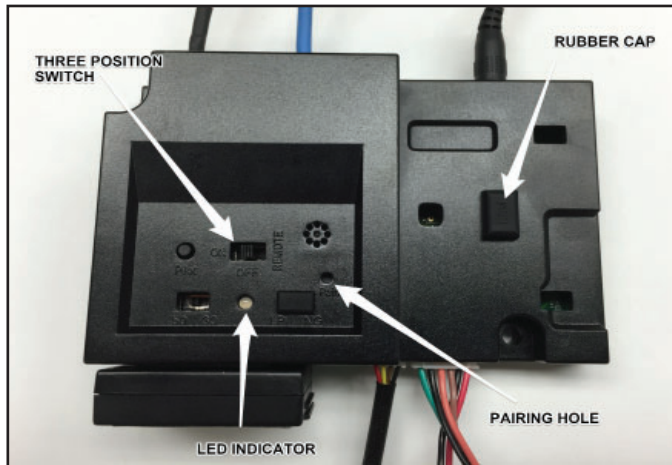

Figure 7. IFT-ECM
1. Locate the IntelliFire Touch® electronic control module (IFT-ECM) in the control cavity of the appliance and move the three-position switch to the OFF position. See Figure 7.
2. Remove protective rubber cap from connector on the top of the IFT-ECM. See Figure 7.